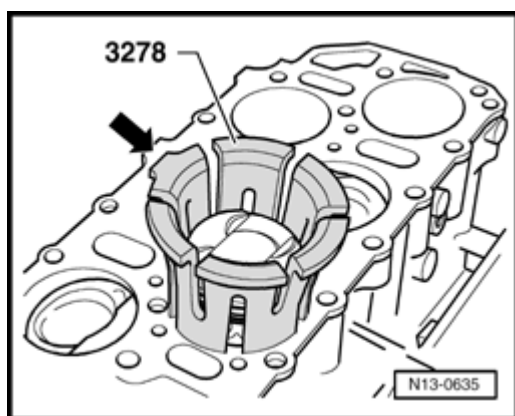

Fig. 5 Installing pistons with piston installation tool (funnel) 3278
- ◆ Install with piston installation (funnel) 32° \Rightarrow Fig. 5